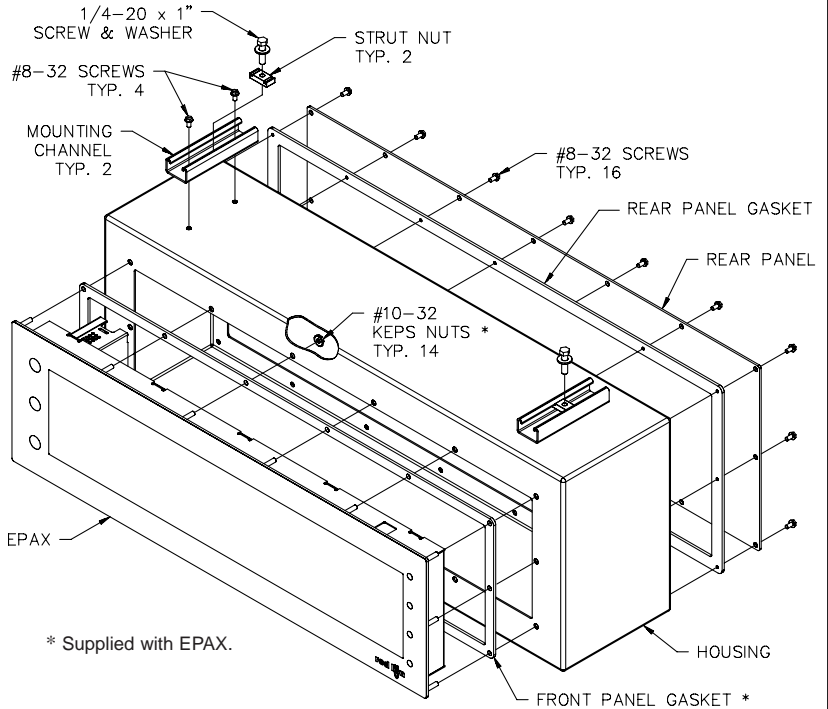

Figure 4
5. Mount the housing, using the strut nuts and steel 1/4-20 UNC bolts and washers, as shown in figure 4.